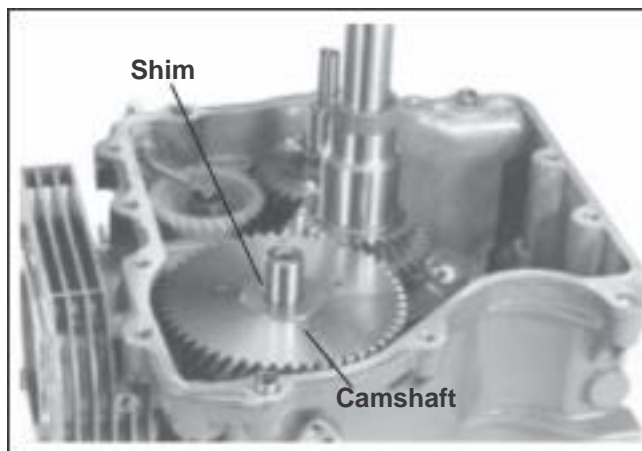

Figure 9-47. Removing Camshaft.
1. Remove the camshaft and shim. See Figure 9-47.